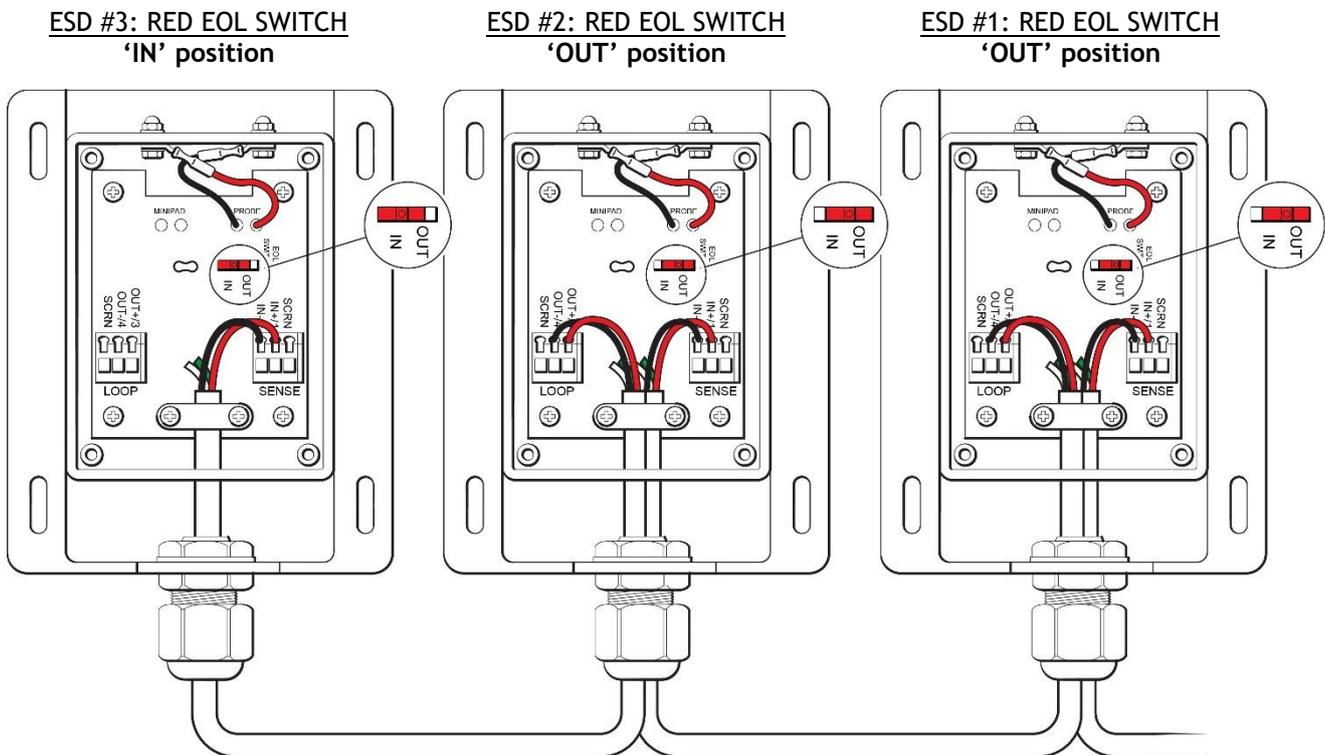

Figure 10: Connecting Multiple ESD Sensor Probes as a Single Zone
2. Connect the series of ESD probes. Ensure that all EOL switches except the last are set to the 'OUT' position; the last EOL switch should be set to the 'IN' position (Figure 10).